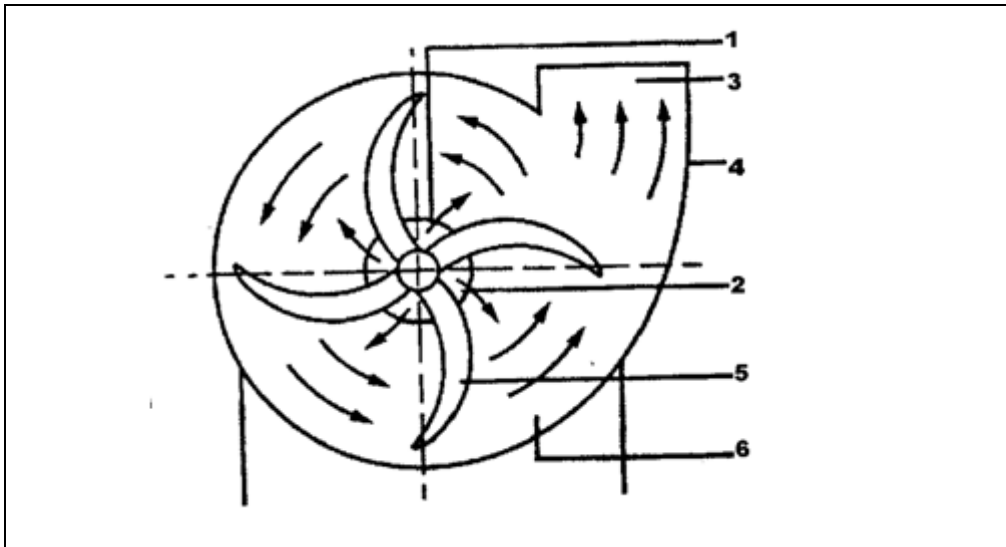

FIGURE 6.10
6.7 FIGURE 6.10 shows a centrifugal pump.